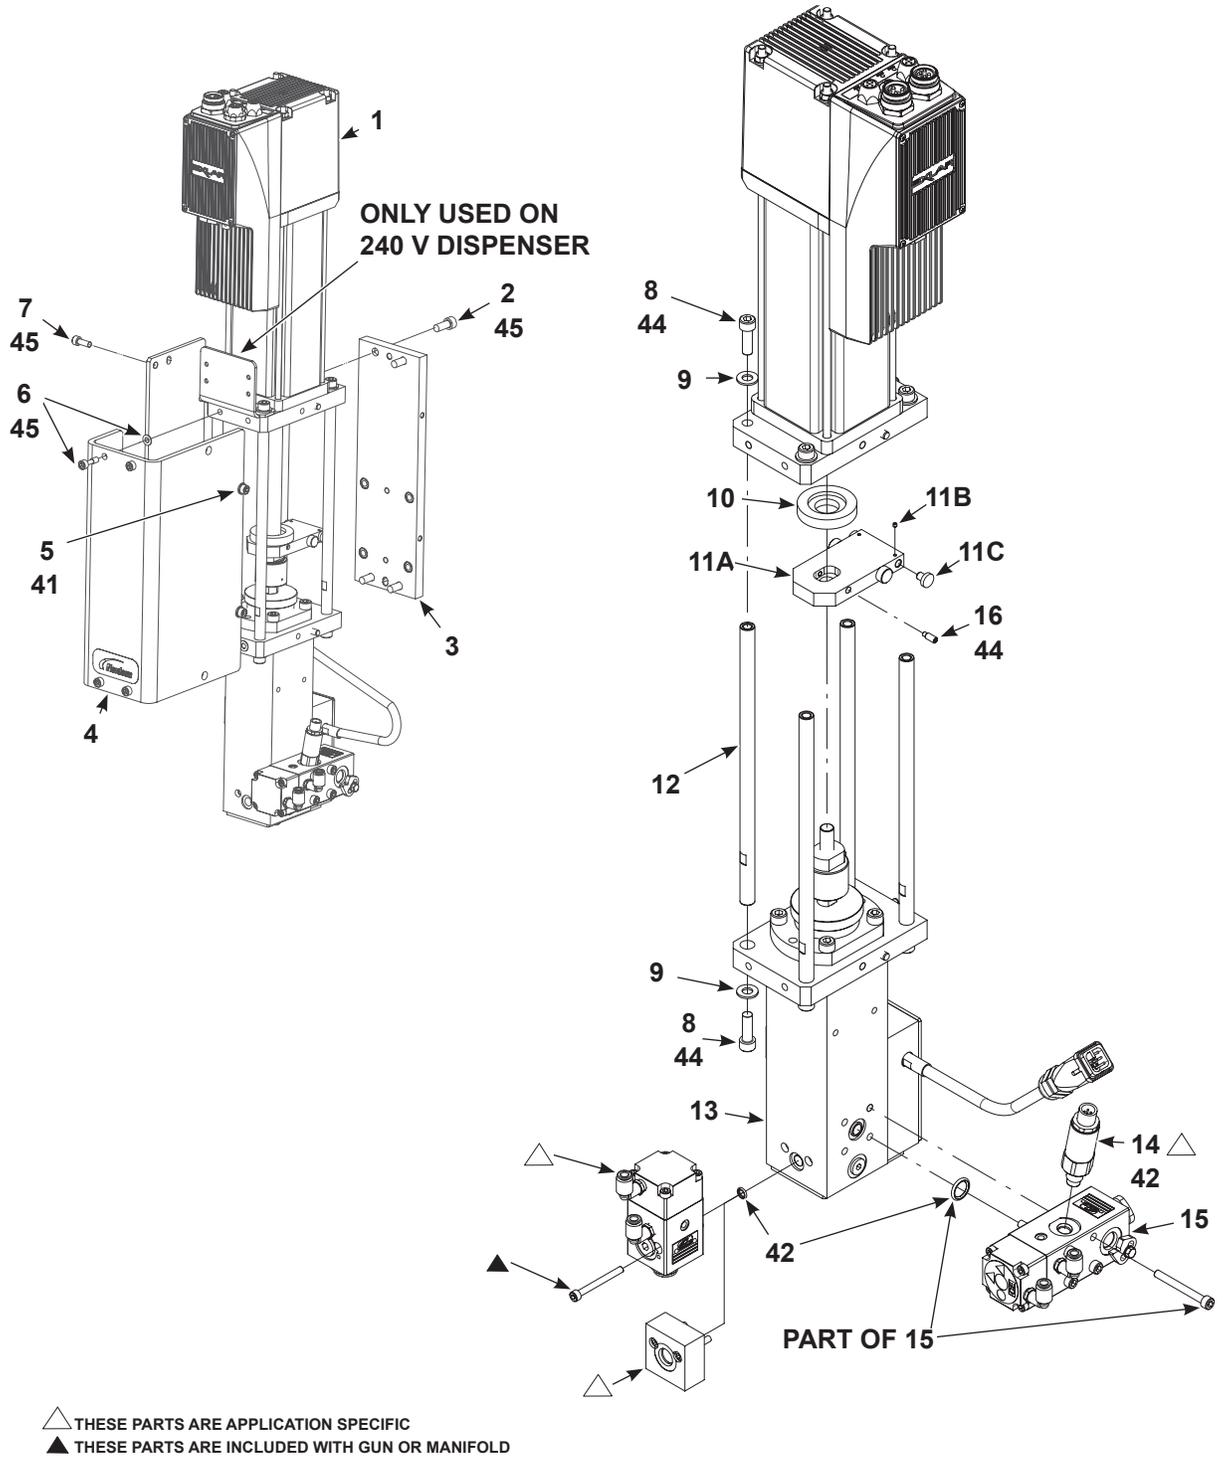
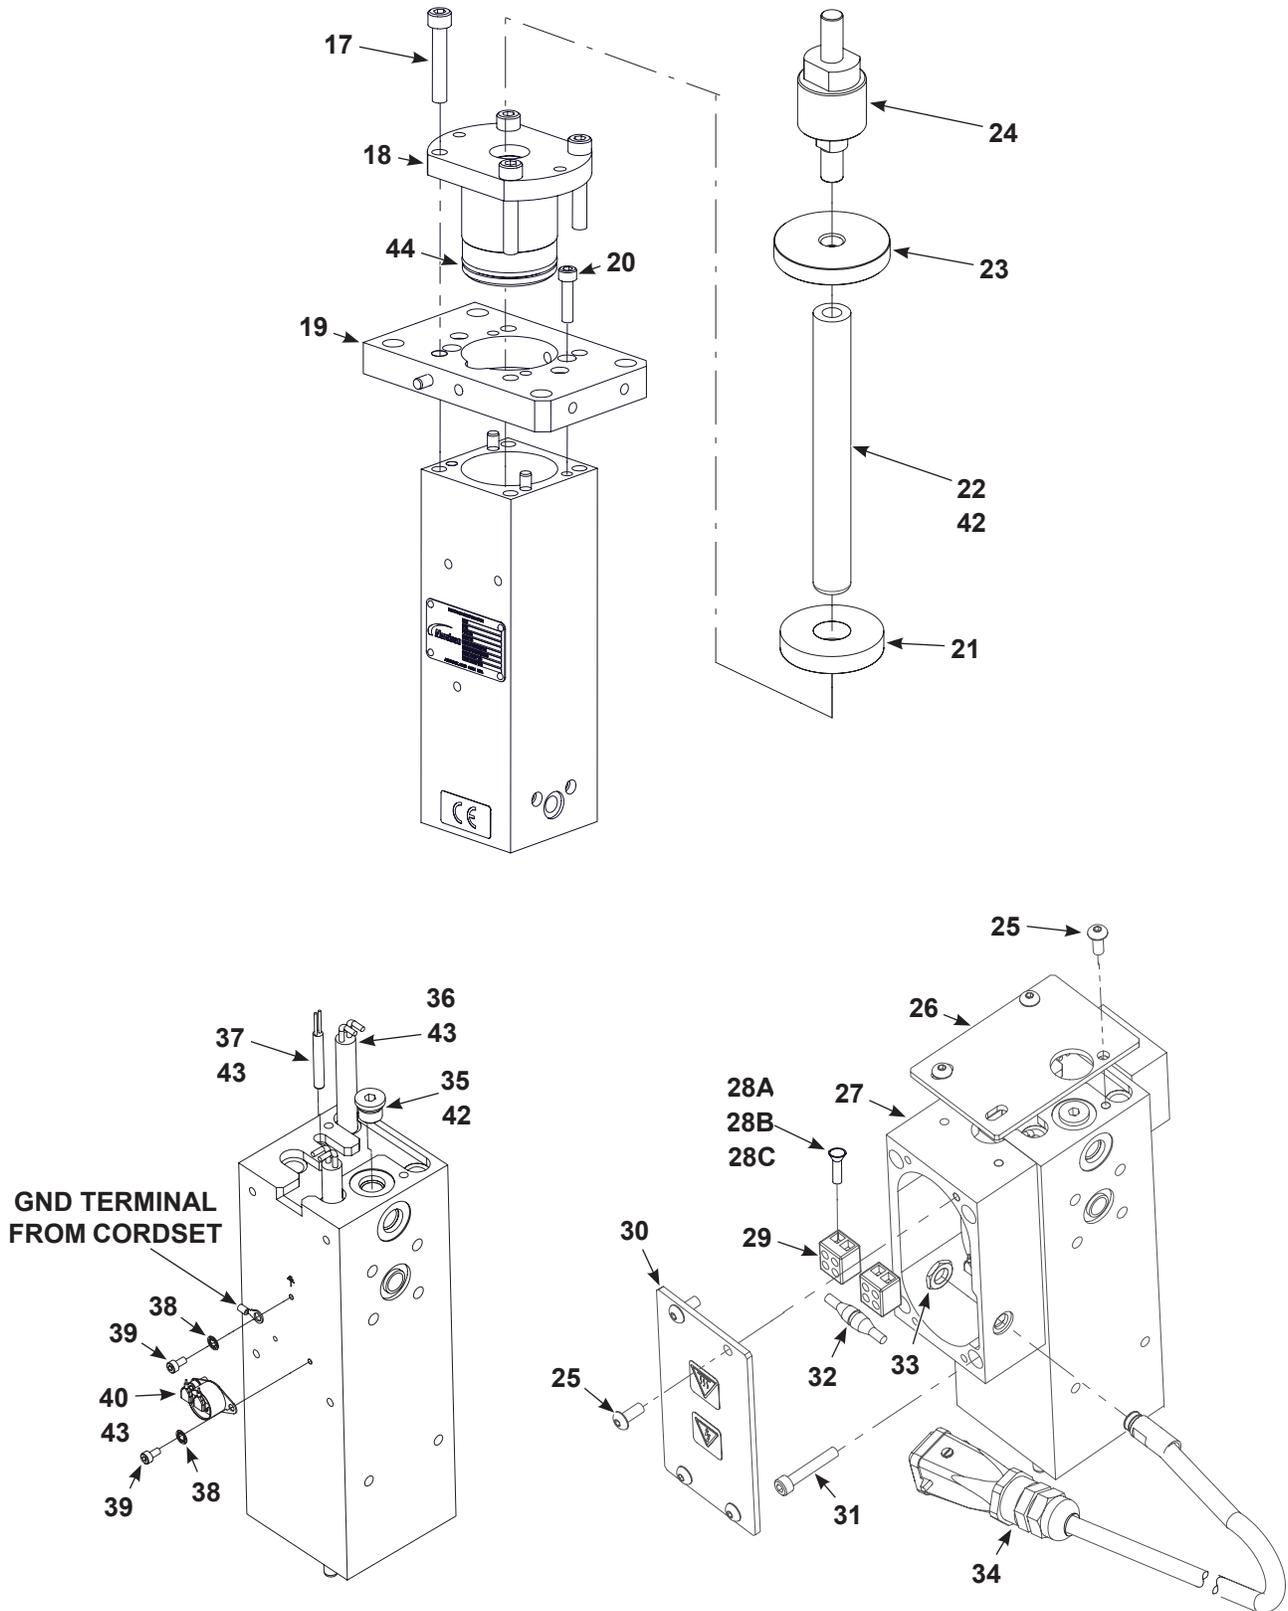
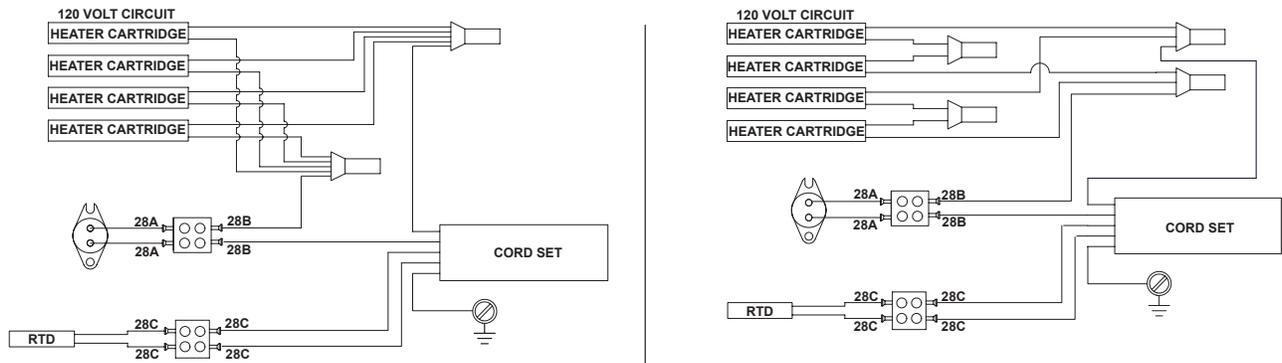

Figure 30 S35 120/140 Heated E-Net Dispenser Parts
Figure 31 S35 120/140 Volt Heated E-Net Dispenser Parts (Continued)
Figure 32 S35 120/240 Volt Heated E-Net Dispenser Parts (Continued)
See Figure 30, Figure 31, Figure 32, and the following parts list that begins on page 61.
D. See Figure 32 for ferrule location.